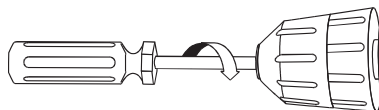

Fig. 7
2. Remove the chuck screw using a #2 ⊕ screwdriver (see Fig. 7).